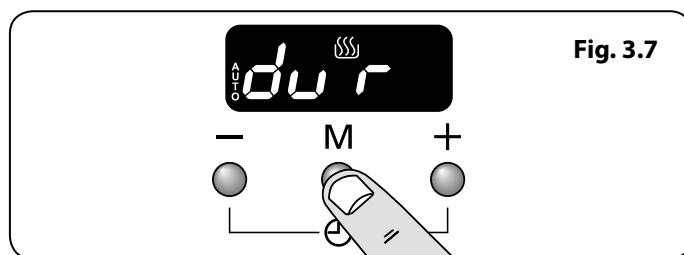

Fig. 3.7
1. Press the mode [M] button until the display flashes 'dur' (**Fig. 3.7**). Then set the 'cook period' using the [+] or [-] buttons.